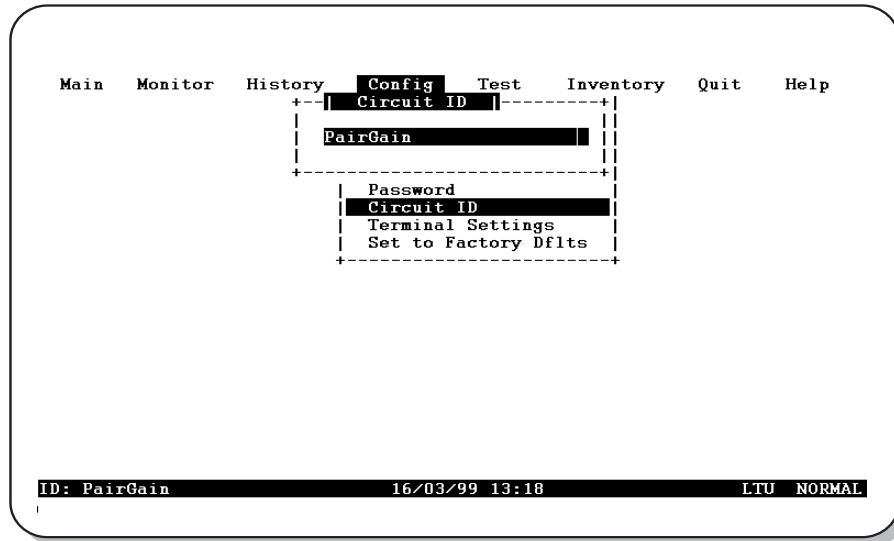

Figure 22. Config Circuit ID Menu
- 1 Type **C** at the *Config* drop-down menu to display the *Config Circuit ID* menu (Figure 22).